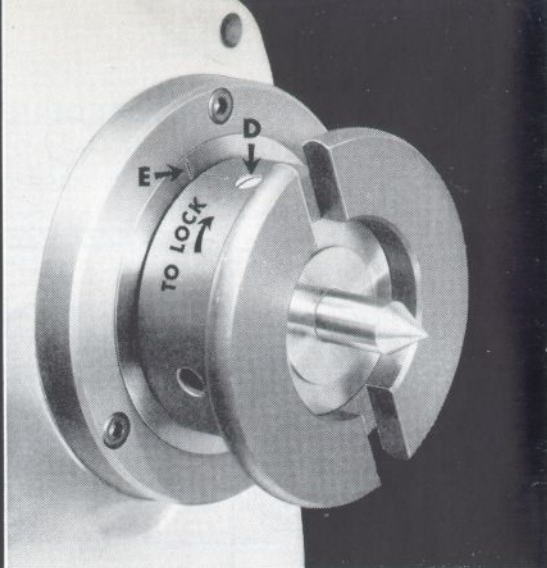

Figure 10
**TO APPLY** the drive plate for driving dog, for example, align key "D", Figure 10, with bayonet slot and slide drive plate on spindle nose. When it is back as far as it will go turn the drive plate clockwise to lock in place. Drive plate shown in Figure 10 is in the locked position. This is determined by the relation of the key "D" and spindle reference line "B". Final tightening should be done with a standard pin type spanner wrench. (Use Williams or Armstrong spanner wrench No. 460. Do not use hammer and punch.)